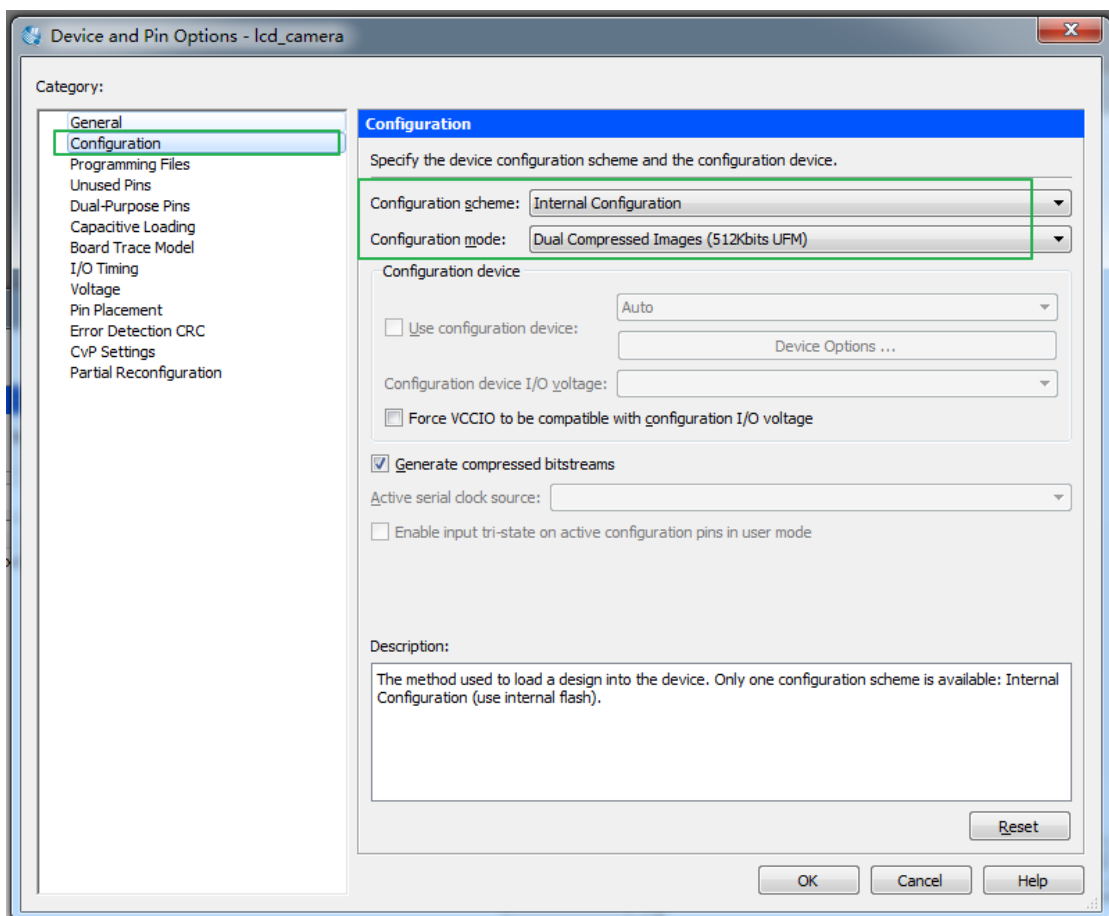

Figure 7-5 Set Dual Configuration Modes
- The configuration mode is set in Device and Pin Options window. Choose **Assignments > Device** to open Device windows. Click the **Device and Pin Options** and choose Dual Compressed Images in configuration table as shown in **Figure 7-5**. Then compile the project to generate the sof file.